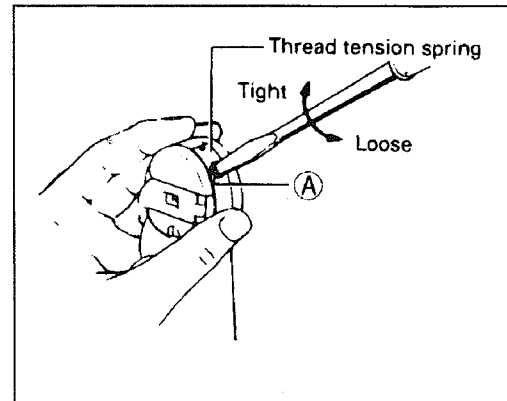

Fig.23
23、 Lower thread tension (Fig.23):